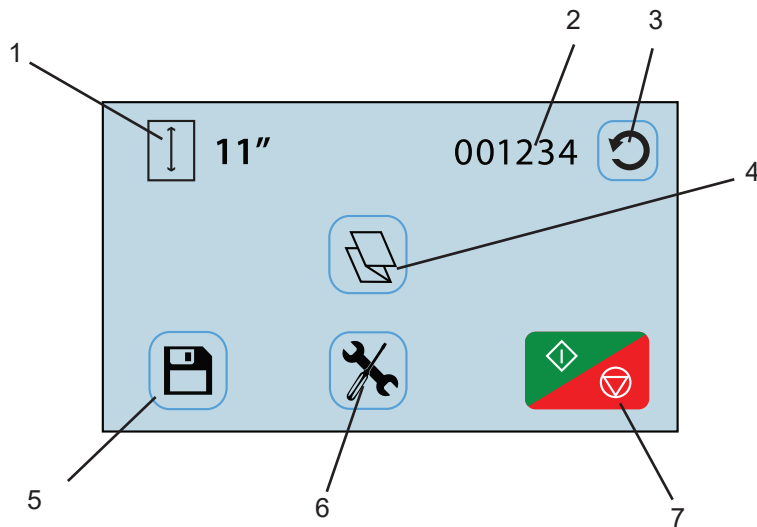

Fig. 2d
4. Insert the fold table plug into the receptacle on the unit (Fig. 2d). Then replace the top cover to complete installation.